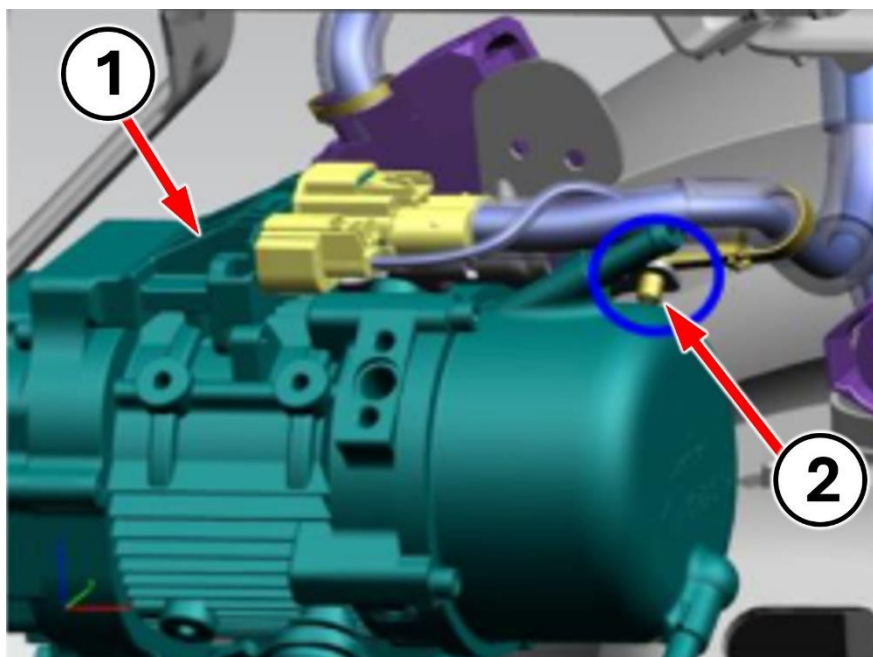

Figure B8 – Power Steering Pump Wire Harness Routing and Clipping
17. Remove fir tree clip from the EHPS pump/pump bracket (Figure B8).